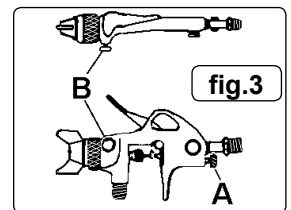

fig.3
- 6.3.1. If a fluid pressure tank is used, the amount of fluid can be controlled by regulating the pressure on the tank. Otherwise, use the fluid control screw on the gun (fig.3.A). Turn right to decrease the flow, left to increase.
- 6.3.2. As the width of the spray is increased (with knob fig.3.B), more material must be allowed to pass through the gun to obtain the same coverage on the increased area.